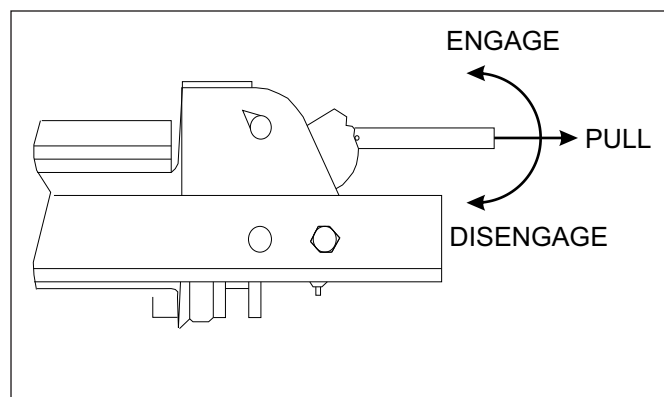

Figure 3-5: 12,000 LB. Winch Manual Clutch
1. The Winch Clutch handle (See Figure 3-5 and 3-6) is located on the right or curb-side end of the 12K winch assembly and the left or streetside of the 20K winch assembly. The function of the winch clutch handle is to engage or disengage the winch, allowing it to respond to the Winch Hydraulic knob.